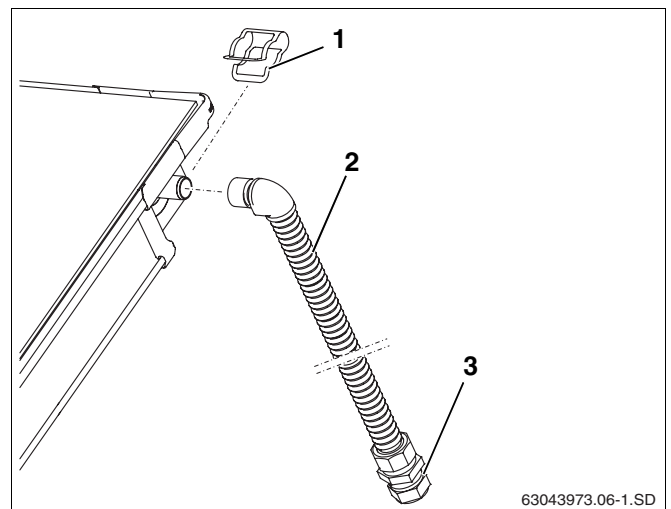

Fig. 33 Fitting flow line (with no vent on roof)
- ▶ Push connection pipe (1000 mm, Fig. 33, **Item 2**) onto the flow connection on the collector array and fix in place using bracket (Fig. 33, **Item 1**).
- ▶ Connect header pipe to the compression fitting (Fig. 33, **Item 3**).